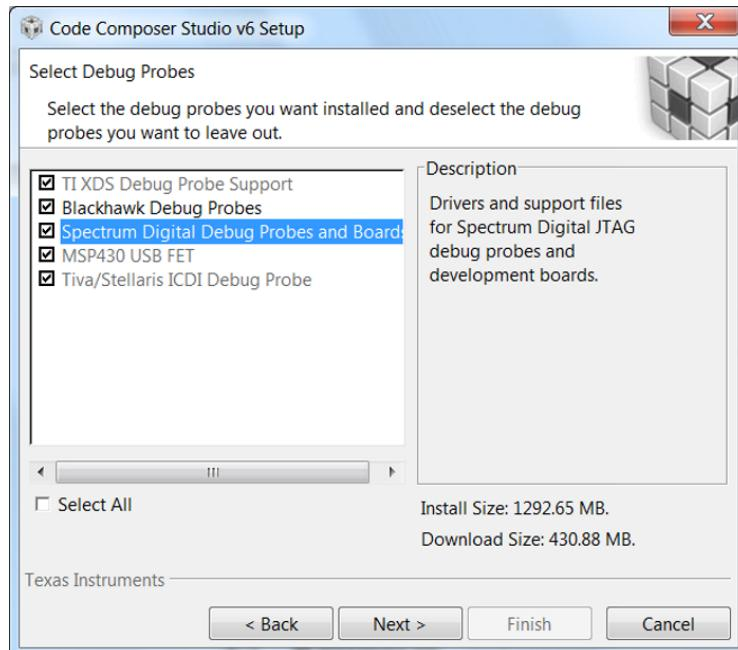

Figure 12. Components Available for Installation
Step 6. Review the installation size and click the *finish* button to begin installation of the CCS software (see Figure 12).